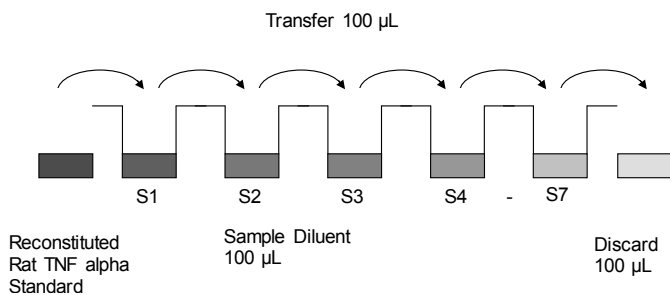

Fig. 7 Dilute standards - microwell plate
- Standard dilution on the microwell plate (Alternatively the standard dilution can be prepared in tubes - see "External standard dilution" on page 3): Add 100 µL of Sample Diluent in duplicate to all standard wells. Pipette 100 µL of prepared standard (see "Rat TNF α standard" on page 3, concentration = 5000.0 pg/mL) in duplicate into well A1 and A2 (see Table 1). Mix the contents of wells A1 and A2 by repeated aspiration and ejection (concentration of standard 1, S1 = 2500.0 pg/mL), and transfer 100 µL to wells B1 and B2, respectively (see Figure 7). Take care not to scratch the inner surface of the microwells. Continue this procedure 5 times, creating two rows of rat TNF α standard dilutions ranging from 2500.0 to 39.1. pg/mL. Discard 100 µL of the contents from the last microwells (G1, G2) used.